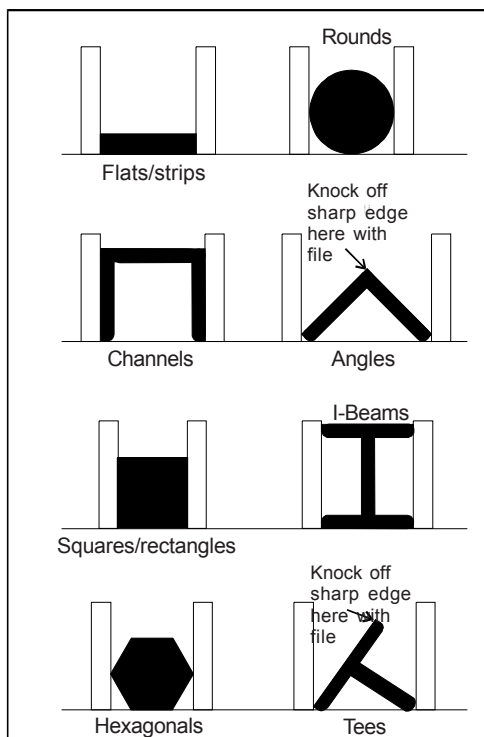

Figure 9: Placing workpieces in the vise
2. Clamp the workpiece in the vise. (See figure 9 for examples of workpieces in the vise.)